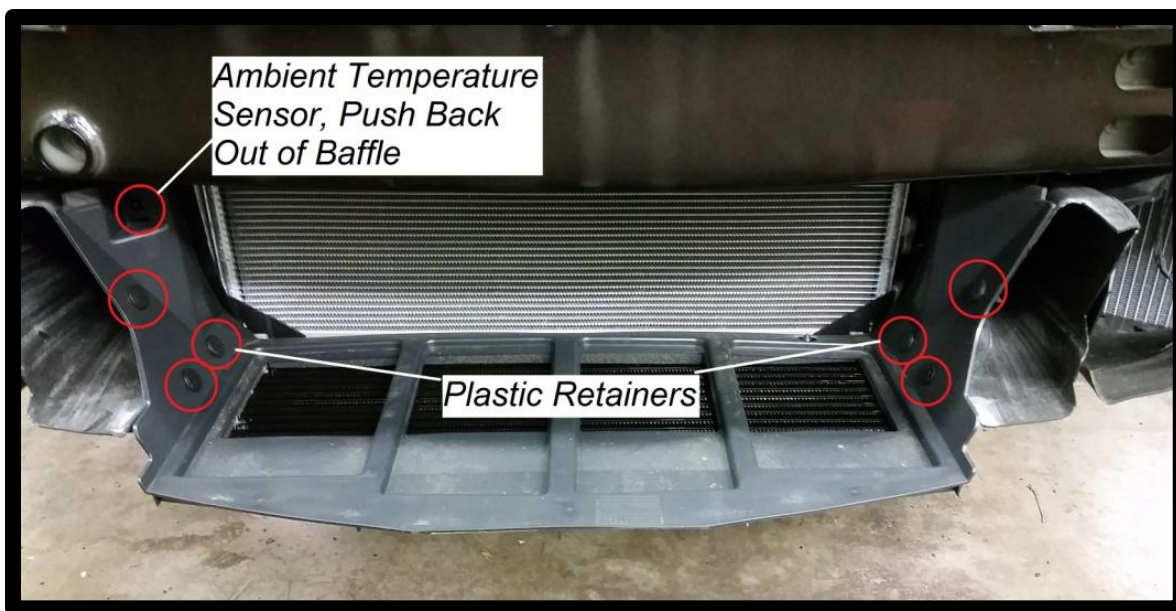

Figure 27: Lower Radiator Baffle
33. The lower radiator baffle will need to be removed, modified, then reinstalled later, however for now remove the six plastic retainers and the ambient temperature sensor from the lower baffle. See Figure 27.